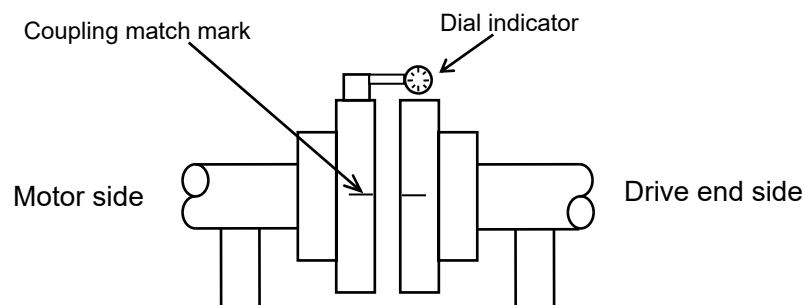

Fig. 4-1 Centering and alignment method with the coupling as a reference
(2) As shown in Fig. 4-1, install the dial indicator onto the coupling of the motor side, measure the parallelism and the degree of eccentricity while quietly turning the rotor of the motor by using the coupling section, and adjust the shaft center. However, since this may vary depending on the type of the machine, also contact the machine manufacturer for further details.